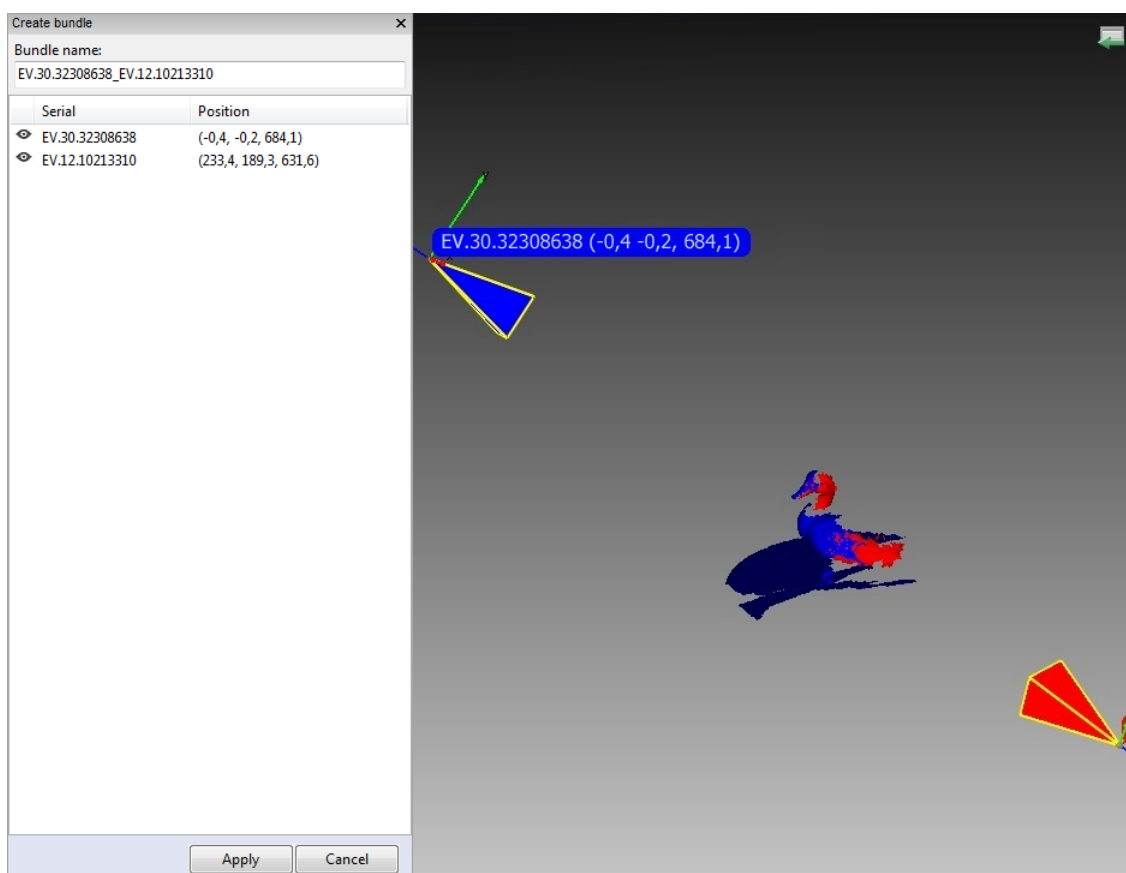

Figure 9.4: Bundle-creation window.
5. From the menu, select *File* → *Create bundle*. A warning message will appear if you forget to align the scans. Otherwise, the bundle-creation panel will appear (see Figure 9.4). The *3D View* window will show the selected scans, the position and viewing direction of the scanners (by means of an appropriately colored pyramid), the device ID, and the scanner coordinates. It will display a list of connected devices and corresponding information.